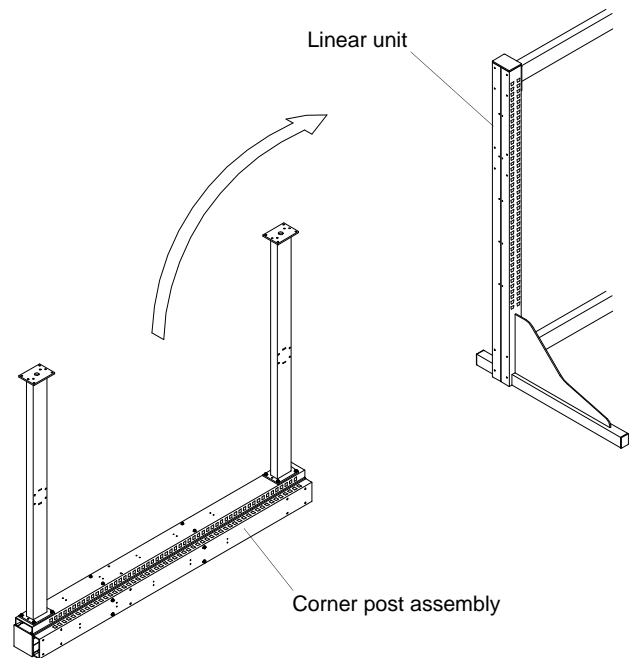

Figure 7
4. Stand the Corner Post assembly up and attach the Cross Ties to the linear unit with eight 1/4"-20 x 2.00" hex washer head thread cutting screws and tighten securely. See **figure 7**.